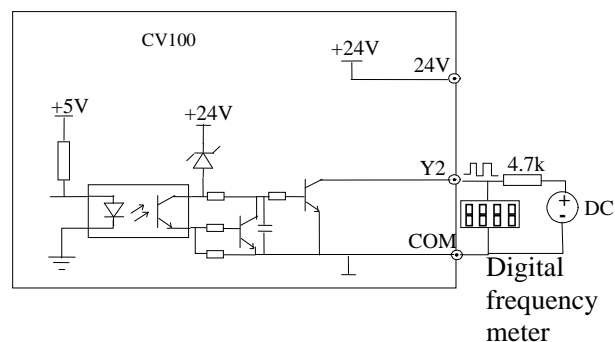

Fig.4-16 Wiring method 2 of output terminal Y2
4. When Y2 is used as a pulse output, it also can use the external power supply. The wiring is shown in Fig.4-16